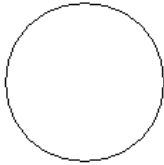

Figure 34-4: The circle drawn using the `circle3` AutoLISP routine.
9. At the Please click a point: prompt, pick any point on-screen. You see a 3-unit radius circle with its center at the point you picked, as shown in Figure 34-4.